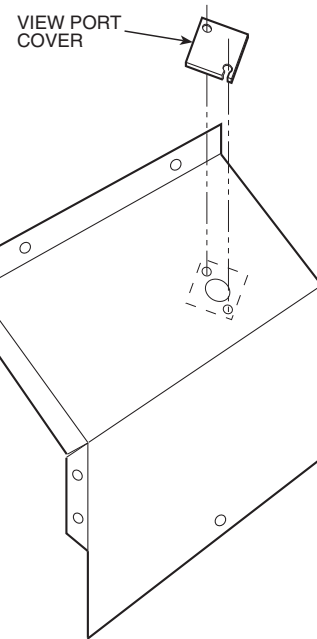

Fig. 68 — 14 in. Inlet Hood View Port Cover Installation
5. Inlet hoods are shipped unassembled and must be assembled on the access panel (see Fig. 67-69). Flanges of the hood top and sides should be installed on the inside of the access panel openings with the screws provided. The sides should be placed on the inside of top hoods for all hood assemblies (6 in., 14 in., and 30 in.). Attach speed clips to screen. Insert screen into bottom opening of 6 in. and 14 in. hoods and secure it with 3 screws. To ease the installation, the 30 in. hood screen may be inserted from inside of access panel (gas section door) into bottom opening of hood. Secure with 5 screws. Attached view port cover over 14 in. inlet hood opening (Fig. 68). Secure with two screws.